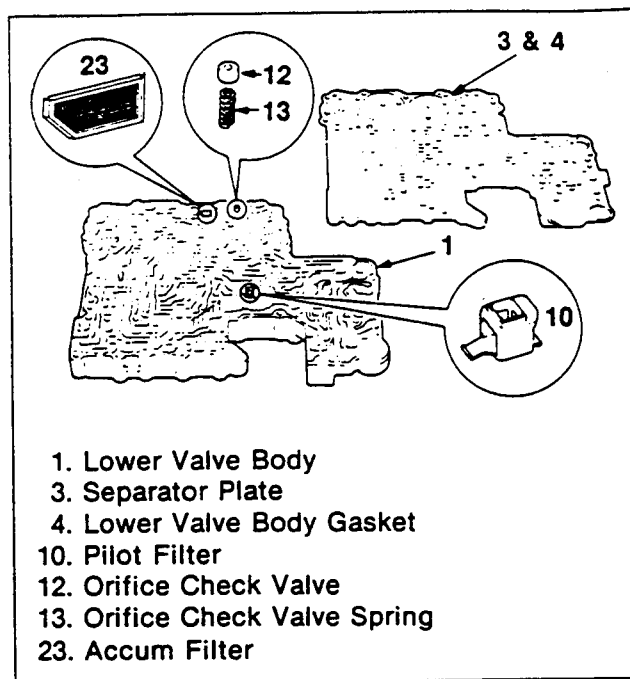

Figure 85. Orifice and Pilot Filter Removal
3. Remove the pilot filter, orifice check valve and orifice check valve spring (figure 85).